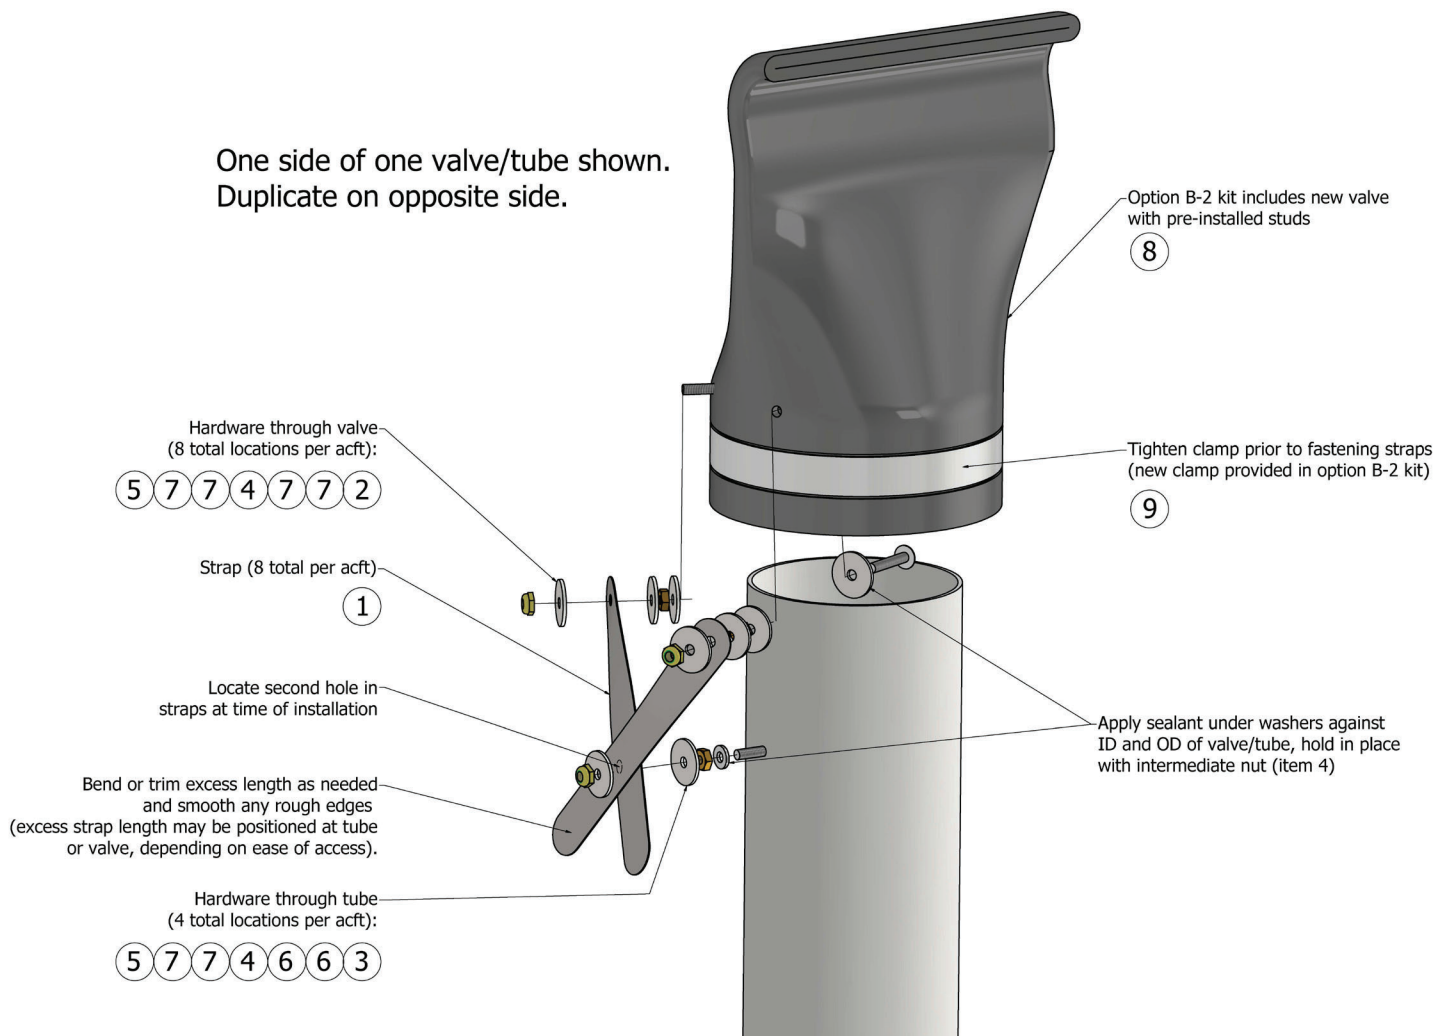

Figure 3
| C | Updated Effectivity note and Background. Added Options A and B. Updated Option B work instructions. Added Tables 3 and 4. Added Kits 1011930-01 and 1011930-02. Updated Figure 3, removed Figure 4. | 7/1/2022 |
- Create "studs" as needed at these locations using the hardware identified in Figure 3 and Tables 2 or 3. Except for the pre-assembled studs in replacement valve assembly 1012077 (Option B-2), any existing studs will be made from different hardware which will need to be replaced. Add Pro-Seal to underside of the washers that contact the ID and OD surfaces of the valves and tubes. Hold in place with intermediate nut (item 4). The final two washers and nyloc nut for each stud will be installed during final placement of the straps (step 8).
- Install straps and remaining hardware. Refer to Figure 3 and Tables 2 or 3. Excess strap length may be bent out of the way or cut. Smooth any sharp edges.